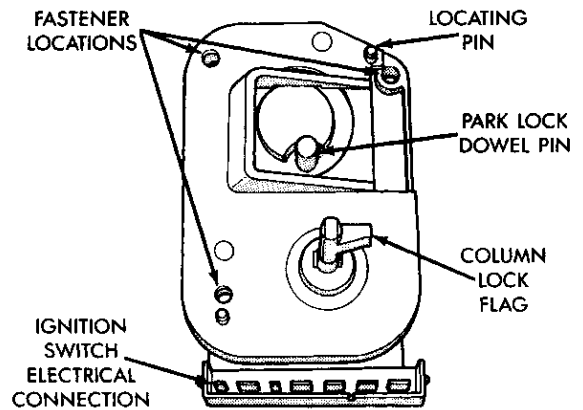
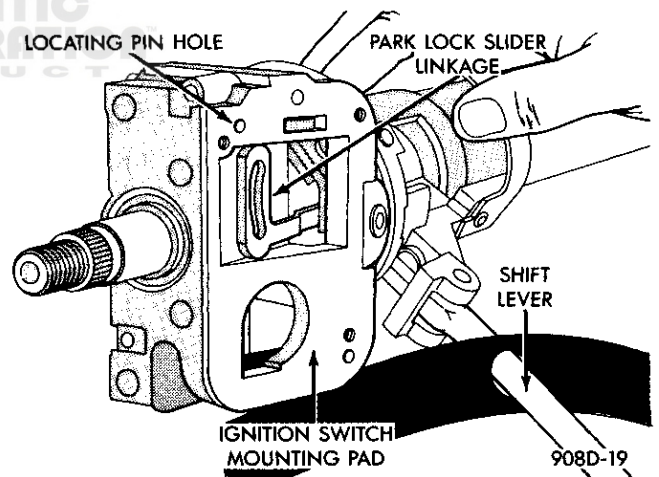

Fig. 6 Ignition Switch View From Column
Fig. 7 Ignition Switch Mounting Pad
(1) Install electrical connectors to switch. Make sure that the switch locking tabs are fully seated in the wiring connectors.
(2) Mount ignition switch to the column (Fig. 6).
linkage (Fig. 7). Verify ignition switch is in lock position (flag is parallel with the ignition switch terminals) (Fig. 6). Apply a dab of grease to flag and pin. Position park-lock link and slider to mid-travel. Position ignition switch against lock housing face. Be sure pin is inserted into park-lock link contour slot. Tighten retaining screws to 2 N·m (17 in. lbs.) torque.